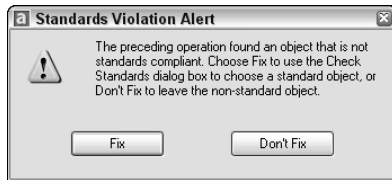

Figure 26-16: The Standards Violation Alert message
- ♦ **Display alert upon standards violation:** Displays a message if your drawing is associated with a standards file and you make a change that puts the drawing in non-compliance with the standards file, as shown in Figure 26-16.